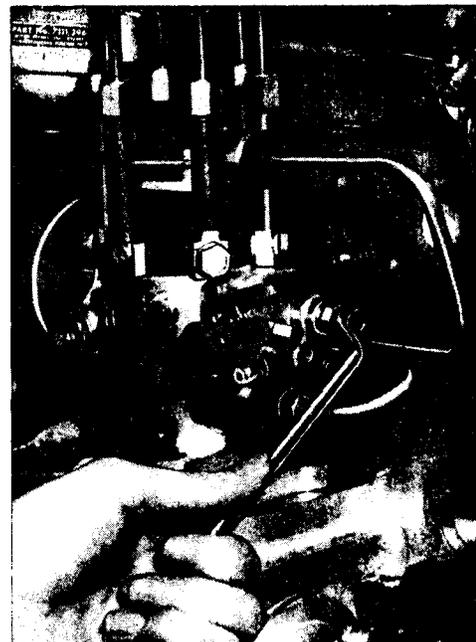

Fig. M.14. Slackening Bleed Screw on Governor Housing.
1. Slacken the air vent valve on the side of the governor housing (hydraulic governor), Fig. M.14, or on the top of the governor control cover (mechanical governor) Fig. M.15.